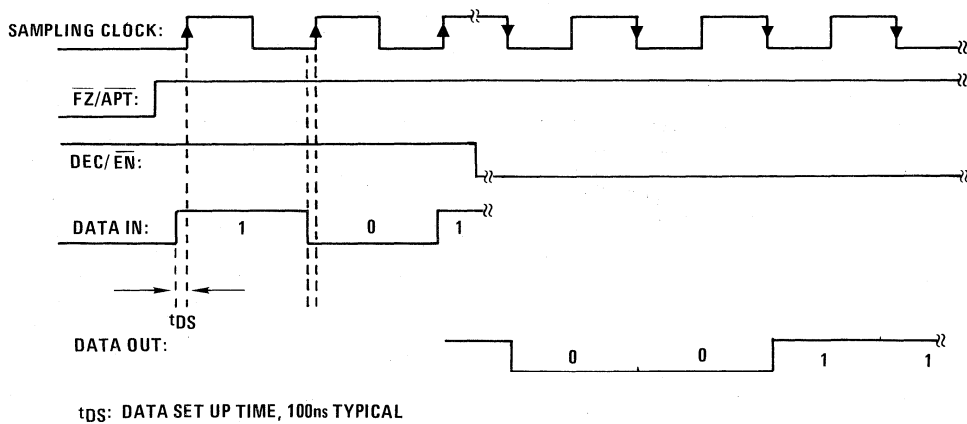

Figure 3 – CVSD Timing Diagram
1. There is one NRZ (Non-Return Zero) data bit per clock period. Data is clocked out on the negative clock edge. Data is clocked into the CVSD on the positive going edge. See Figure 3.